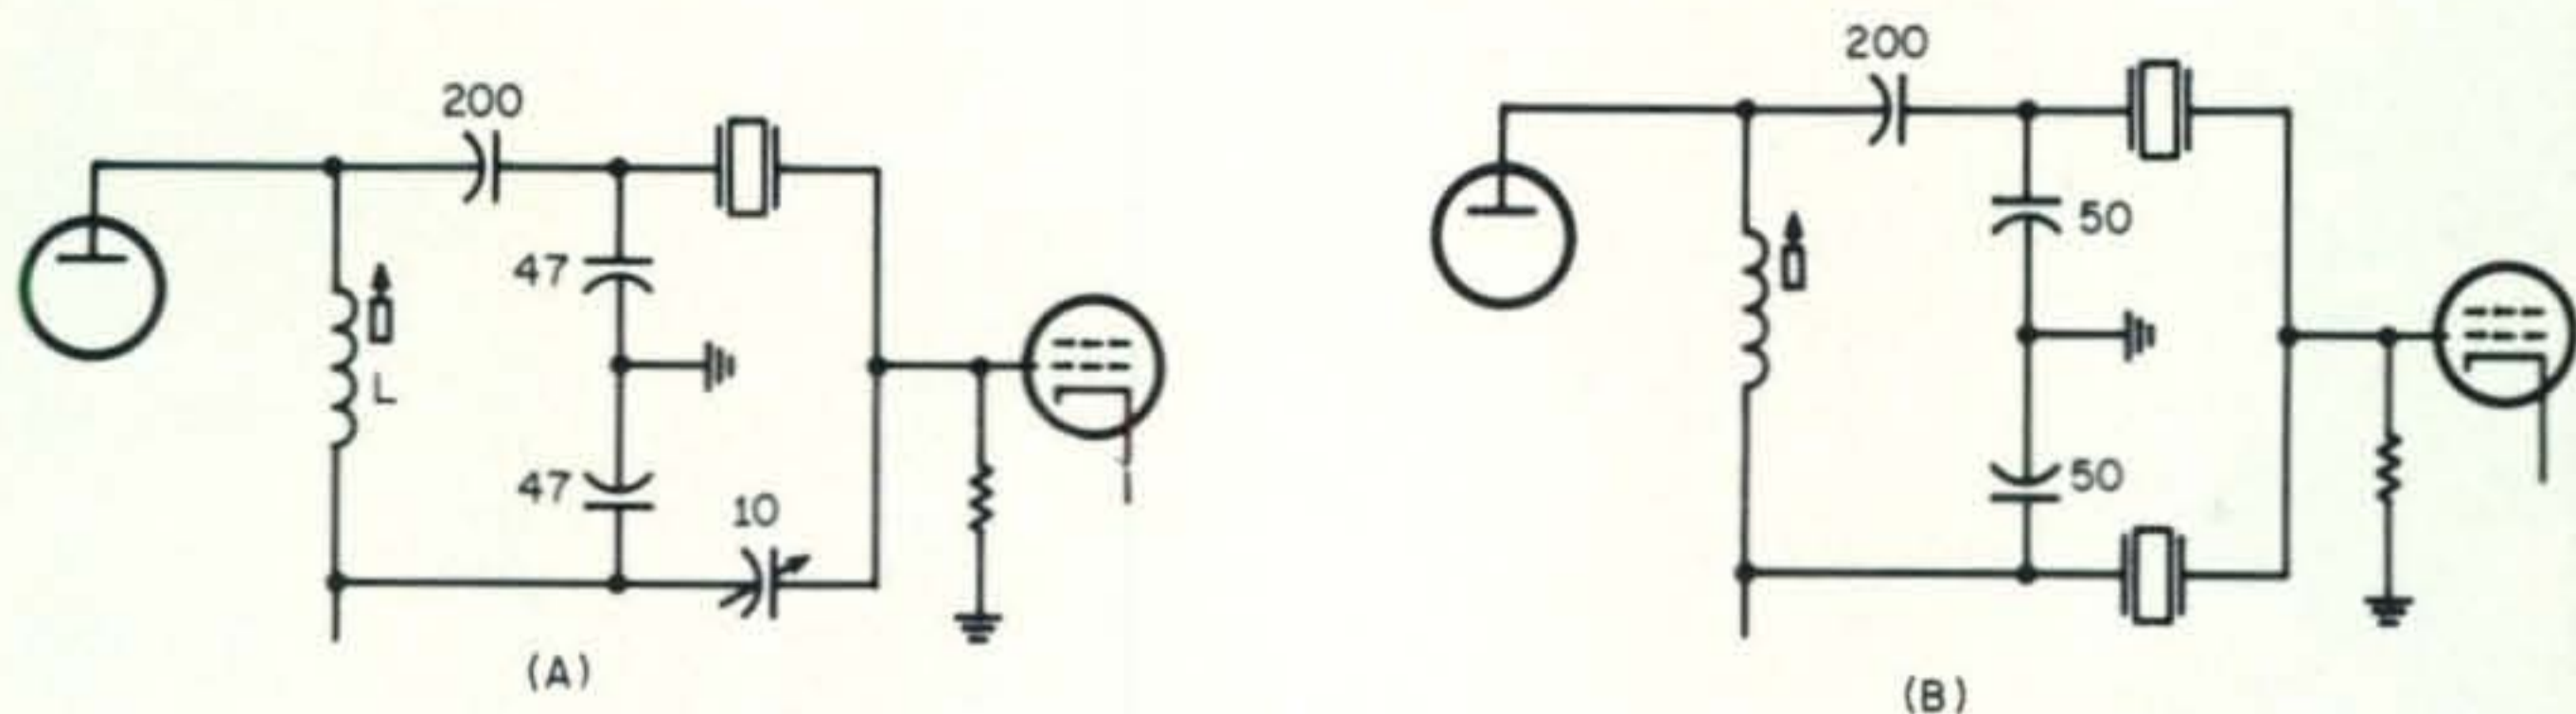
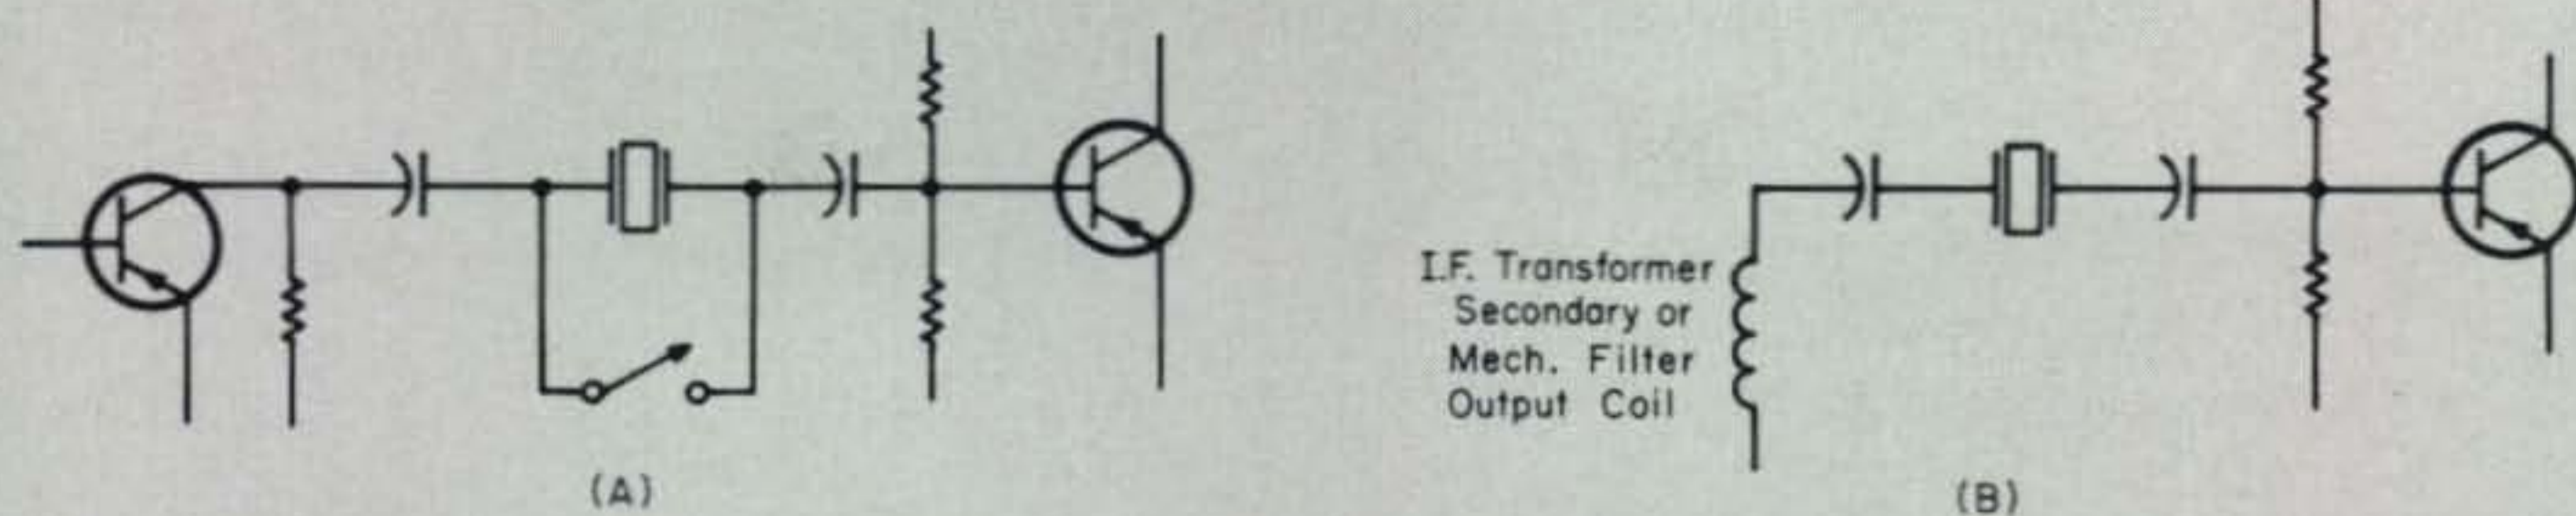

Fig. 2—Single and double crystal filters are shown as they may be placed between i.f. stages in typical tube-type transceiver i.f. section.
Fig. 3—Examples of single crystal filters in transistorized i.f. stages.
Some practical circuits for the use of single and dual crystal filters with both tube and transistor circuits are shown in figs. 2 and 3. Figure 2 (A) shows a conventional single-crystal filter placed between two i.f. stages, L being the original i.f. transformer or single coil winding. The two 47 mmf capacitors are not used to resonate the coil but only to obtain a balanced input circuit for the filter. The value of these capacitors is not critical but has to be experimented with for best results depending upon the i.f. frequency. They are not used to resonate the tuned circuit since this would produce a high impedance input and tend to broaden the response of the crystal filter circuit. The crystal presents a low impedance at its resonant frequency and therefore the selectivity will be greatest when the crystal works into both low input and output impedances. Generally, stage gain will not be greatly affected by some detuning of the interstage circuit and better selectivity will result. The 10 mmf variable capacitor serves as a so-called "phasing" adjustment and permits one to vary the frequency of the "notch" shown in fig. 1 (B). It can either be set for the
The circuits of fig. 2 could equally as well be used between transistor stages and the same considerations as for the tube stages would apply. However, because the inter-stage coupling between most transistor stages is inherently at a lower impedance level one can simply insert a single crystal filter with good results between these stages as shown in fig. 3. No circuit modifications need be made at all except to provide an additional d.c. blocking capacitor if a diode switching arrangement is used to switch the crystal in and out of the circuit. No phasing capacitor is shown but one could insert a small trimmer capacitor of from 25 to 200 mmf, depending upon whether the i.f. is in the l.f. or h.f. range, either in series or in parallel with the crystal to slightly vary the resonant or anti-resonant frequency of the crystal circuit. If one has the proper test instruments available to display the i.f. response (a sweep generator and oscilloscope) they can be used to obtain the best overall i.f. response.
Whatever crystal filter arrangement is decided upon it can be switched in and out of the transceiver circuit by either direct switching, relay switching or its semi-conductor equivalent, diode switching. Direct switching, such as s.p.s.t. switch shown in fig. 3 (A) is practicable when the leads to the switch are relatively short and a low i.f. frequency is used. Shielding of the leads to the front-panel switch is generally necessary but introduces a shunt capacity that can detune the circuit. Relay switching eliminates the necessity for a short physical connection between the front-panel control and the crystal filter circuit. However, relays are not always easily placed inside a crowded transceiver and their function can often be taken over by simple and inexpensive diode switches.
is exactly the same circuit as fig. 2 (A) except that a diode switch (1N916) is used to switch the crystal in and out of the circuit and a varactor (TV301) is used as a phasing capacitor. The latter can, of course, be replaced by a simple 15 mmf mica trimmer thus eliminating the need for the 10K potentiometer, 100K resistor and the 1 mh r.f.c.